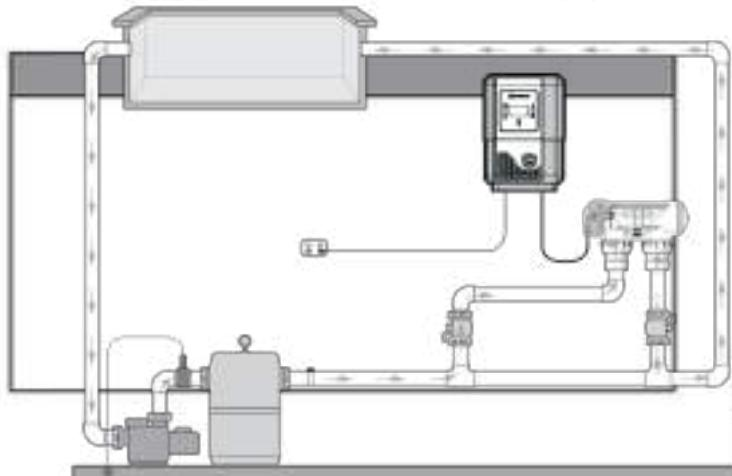

Figure 3. Plumbing Cell Only
The cell must be plumbed in a position that is accessible for maintenance and within 1.5 meters of the controller. The cell should be the last piece of equipment in the circulation system. The cell must be installed horizontally, level and with correct flow orientation, see Figure 3.
1. If you intend to plumb the cell on a bypass, the bypass must be equipped with Isolation valves, see Figure 3.
- The cell must be the last piece of equipment on the return line, see Figure 3.
- It is recommended in all installations that the cell is installed on a bypass equipped with isolation valves, see Figure 3.
- In order to avoid load loss, installing the cell on a bypass is MANDATORY if system flow rated exceeds 300 Lpm, see Figure 3.